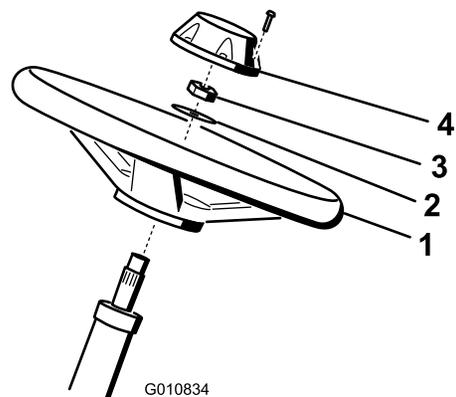

Figure 4
1. Slide the steering wheel onto the steering shaft (Figure 4).
2. Slide the washer onto the steering shaft (Figure 4).
3. Secure the steering wheel to the shaft with a jam nut and tighten it to 20 to 26 ft-lb (27 to 35 N-m) (Figure 4).
4. Install the cap to the steering wheel and secure it with a screw (Figure 4).